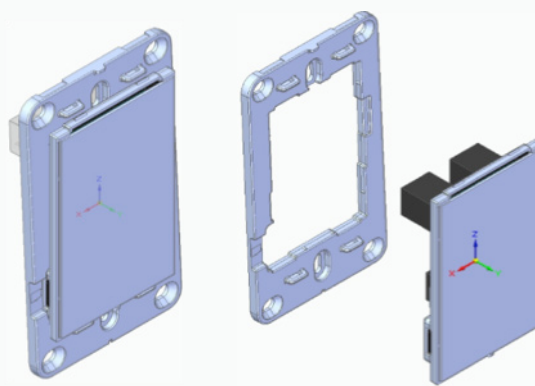

Figure 2
3. It is necessary to remove the screen assembly to gain access to the mounting holes. Carefully pry back the two retaining clips at the top of the screen assembly one at a time and guide the screen assembly forward and away from the mounting plate. See figure 2. DO NOT ATTEMPT TO MOUNT THE SWITCH STATION WITHOUT FIRST REMOVING THE SCREEN ASSEMBLY.